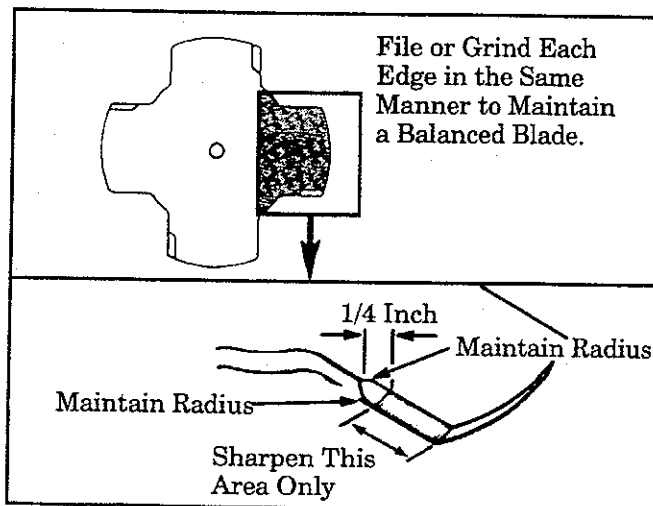

Figure 26
3. File or grind each edge in the same manner to maintain a balanced blade. Figure 26.
To prevent the blade from cracking or flying apart after sharpening, do not file within 1/4 inch of the radii shown in Figure 26.